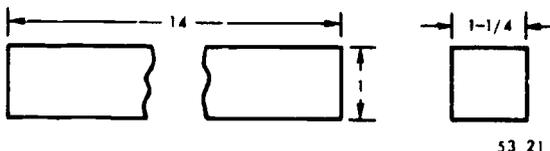
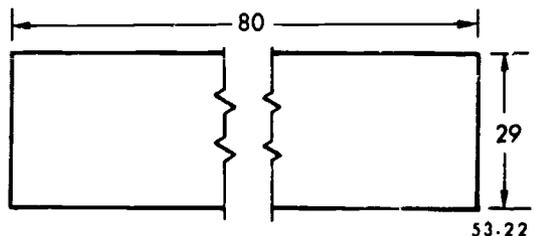

Figure 21. Short break lines.
Figure 22. Long break lines.
d. *Break* lines are used when an object is uniform in shape, such as a pipe or shaft, and the length prevents its being shown completely on a drawing. A portion is removed from its midsection, as shown in figures 20, 21 and 22, to enable both ends of the object to be seen. Short breaks are indicated by solid, freehand lines, as in figure 21. For long breaks, full, ruled lines with freehand zigzags are used, as in figure 22. Shafts, rods, and tubes have the ends of the break drawn as indicated in figure 21.